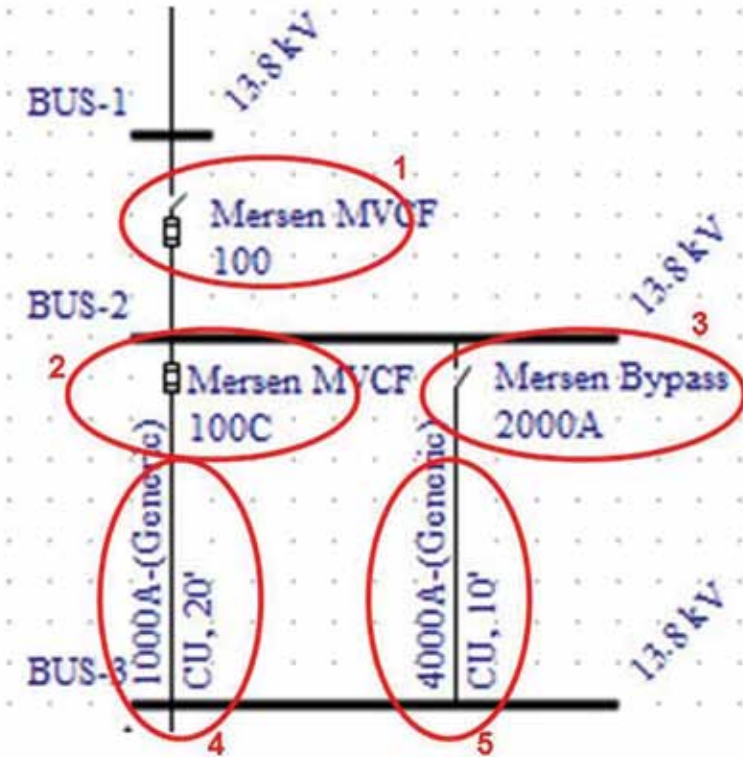

Figure 3. Modeling the MVCF.
**Step 1.** Model the MVCF with 5 discrete components. There is a main fuse (1 as shown in Figure 3), a controlled fuse (2) and a bypass switch (3). Since the fuse and bypass switch are zero ohms in the program, some impedance needs to be added in each leg. See (4) and (5) in the figure.
**Step 2.** Double click the main fuse (1) and select from the dialog as shown to the right.
**Step 3.** Double click the controlled fuse (2) and select from the dialog box. As can be seen, the controlled fuse is shown as a separate fuse without a switch. Click on the 'Fuse Only' check box under One-Line Graphics to properly display this fuse.